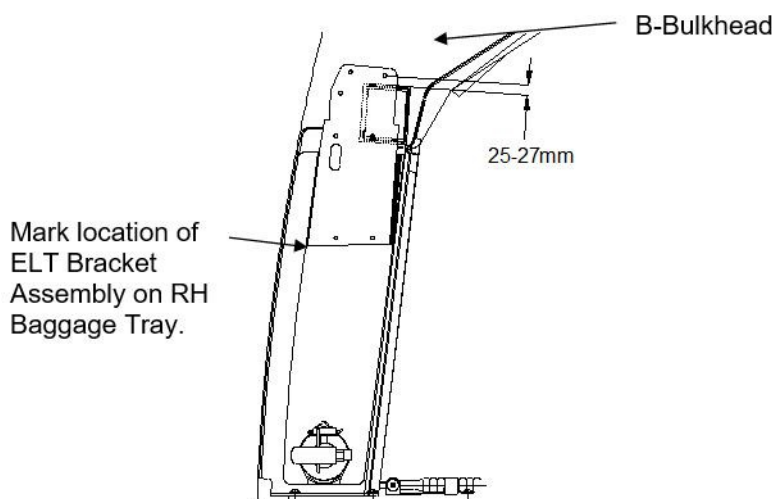

Figure 1. Location of the ELT bracket assembly.
4. Place the ELT bracket assembly (item 1) into the RH baggage tray, and position it so that the bracket assembly mounting holes are 25 mm to 27 mm aft of the existing ELT pocket. Mark the bracket location on the baggage tray. Refer to Figure 1.